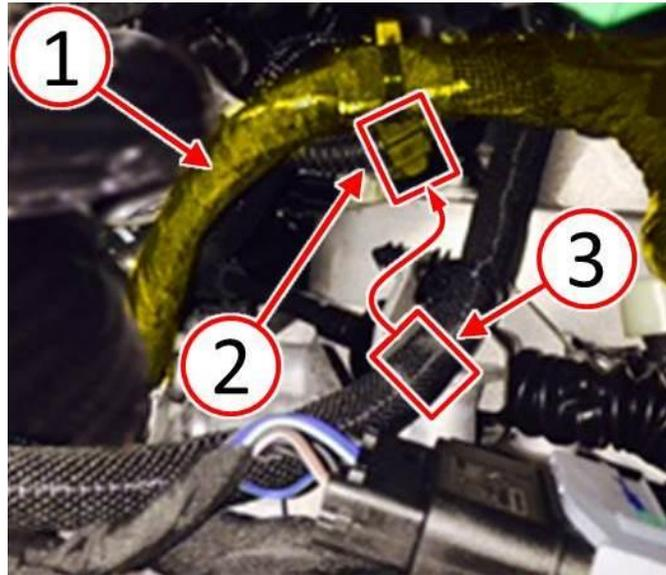

Fig. 4 New Harness Clipping Location
- Relocate the transmission electrical harness (1) from the previous clipping location (3) to the new clipping location (2) on the battery positive cable in order to prevent harness chafing (Fig. 4).